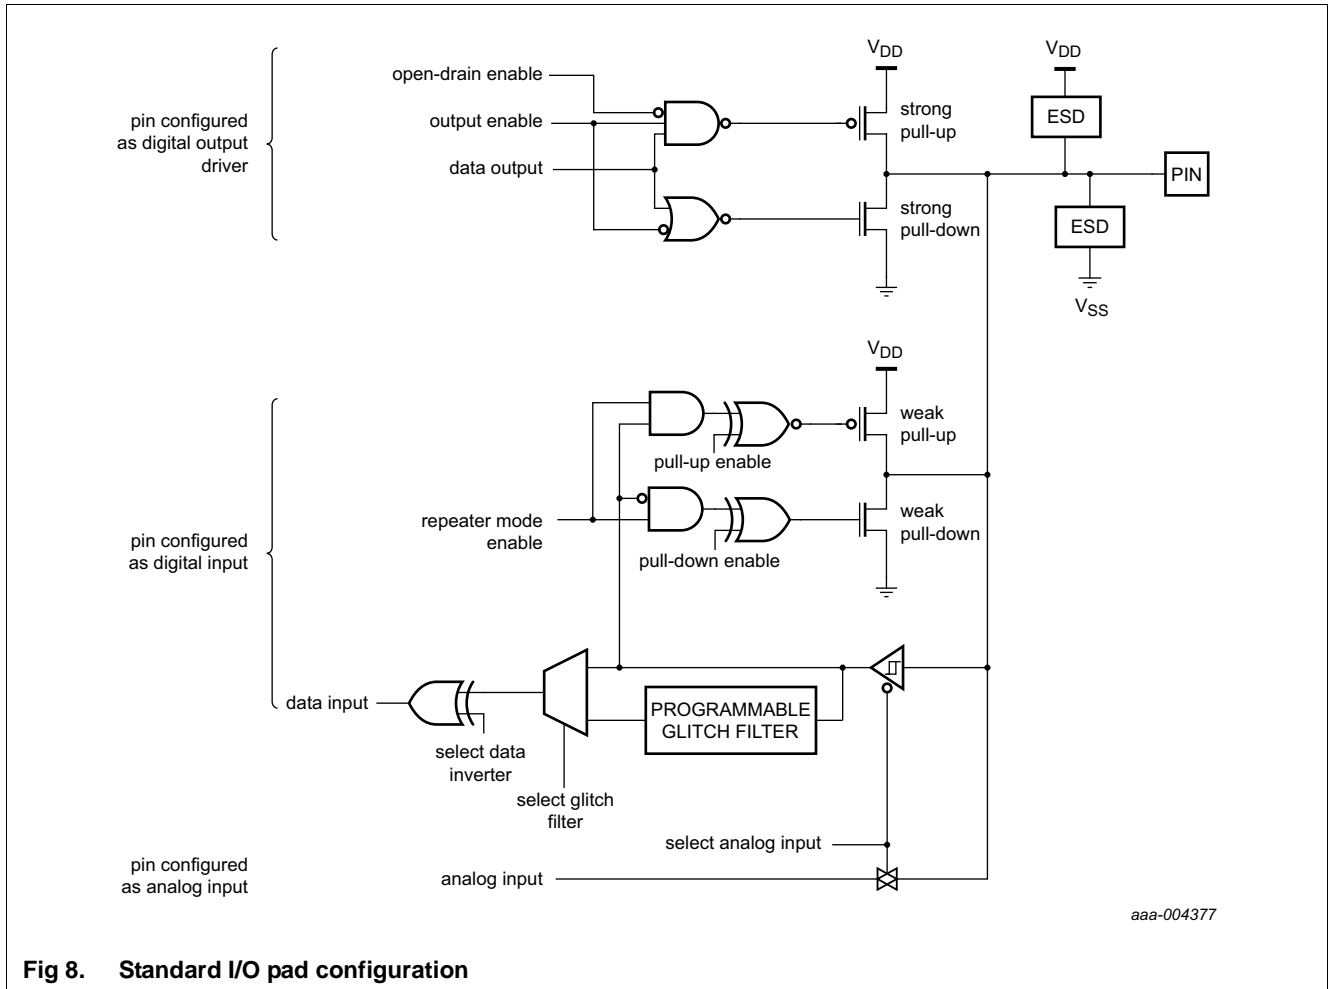

Fig 8. Standard I/O pad configuration
- Pull-up/pull-down configuration, repeater, and open-drain modes can be programmed through the IOCON block for each GPIO pin (see Figure 8).